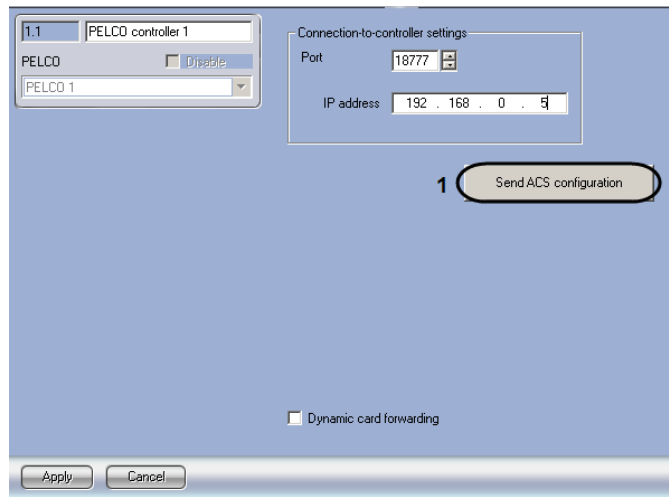

Fig. 3.5—1 Transferring the ACS module configuration to the Pelco controller
1. Go to the **Pelco Controller** settings panel (Fig. 3.5—1).
2. Click on **Send ACS configuration** (Fig. 3.5—1, 1).